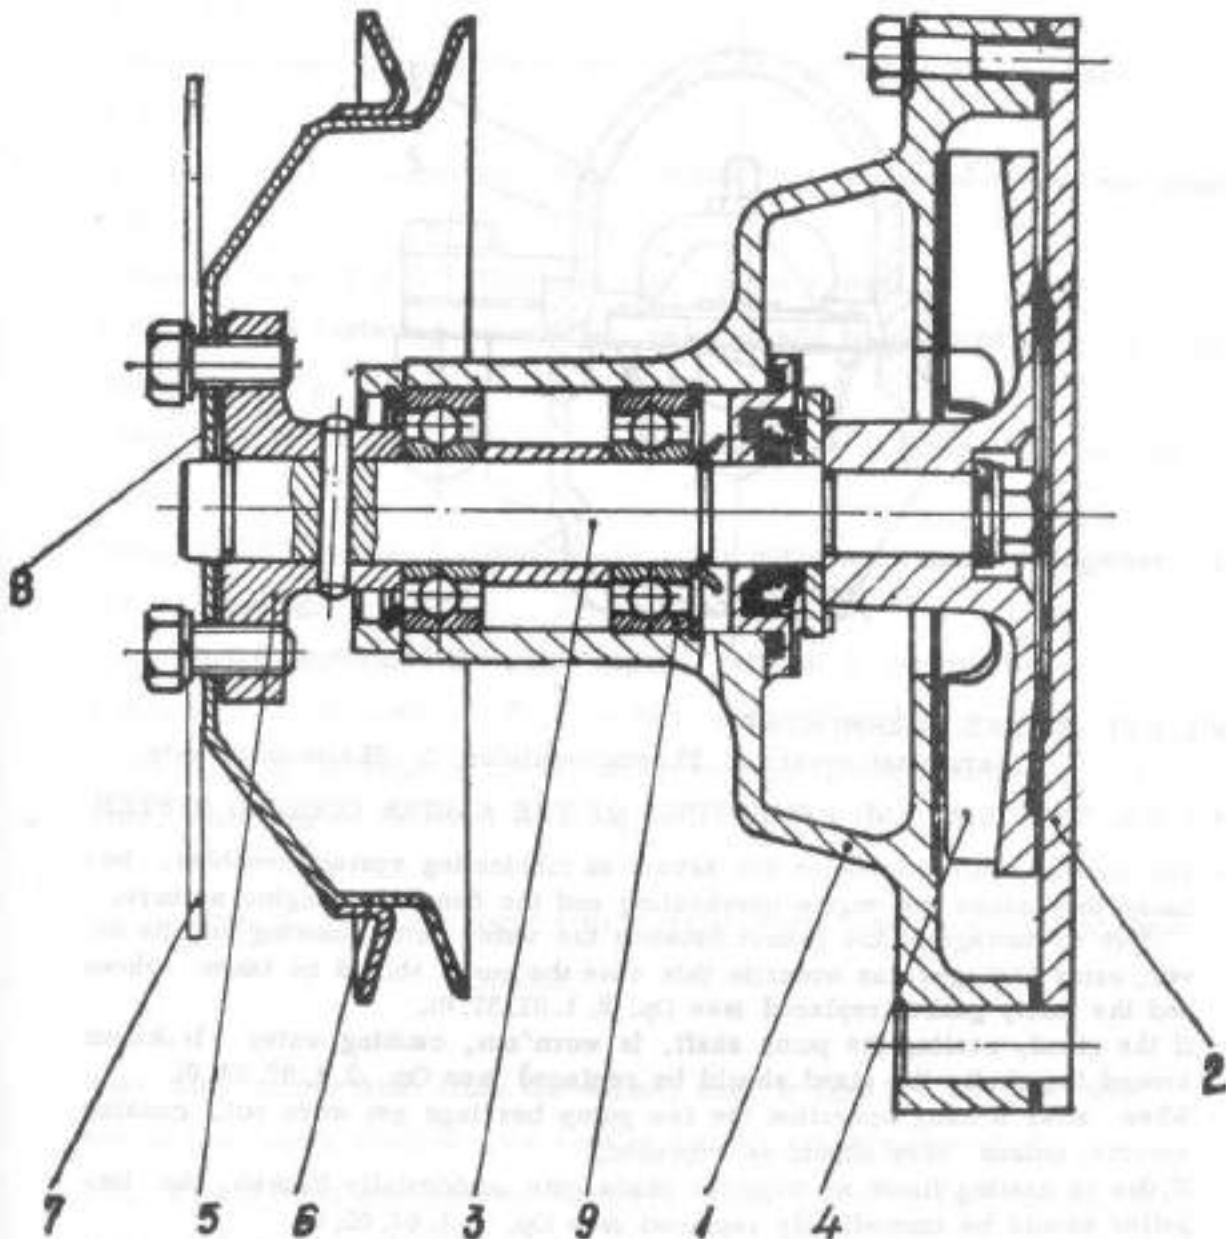

Fig. 4.20. WATER PUMP
The pump body is an aluminum casting. Its shaft is fitted with two shielded, selflubricating ball bearings (9) - see fig. 4.20 -
- Remove snap ring - see fig. 4.20 -, by the agency of nose pliers and draw out annular shim from the shaft flange end.